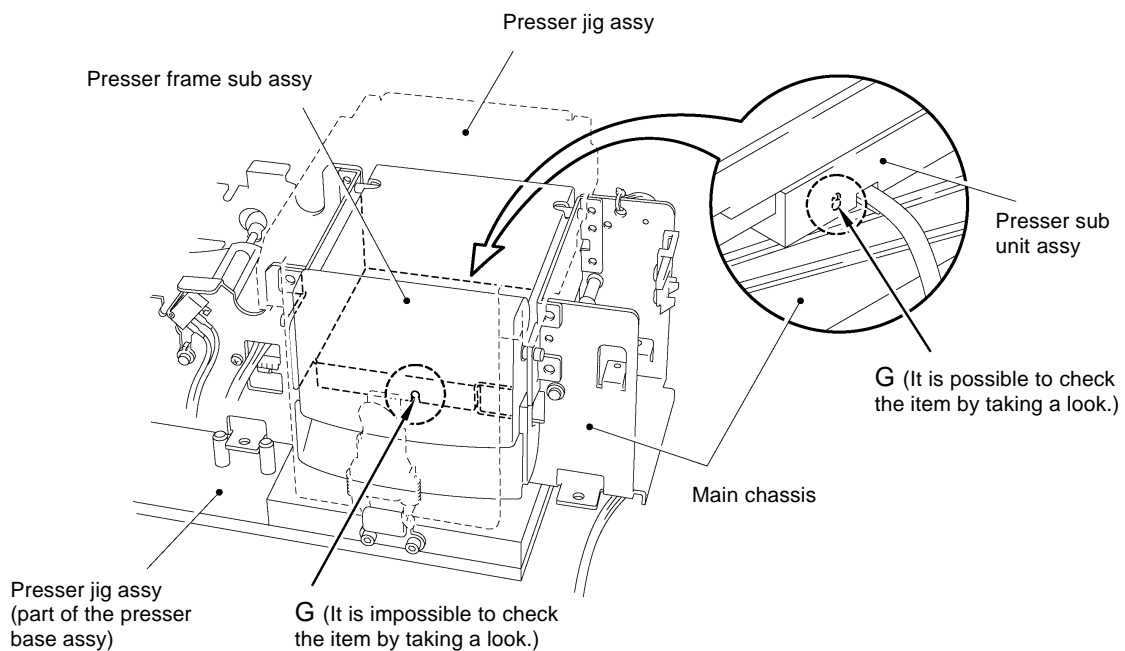

Fig. 3.73D
- * Check that the protrusion of the presser frame sub assy fit in the hole of the main chassis at two portions (G), as shown in Fig. 3.73D.